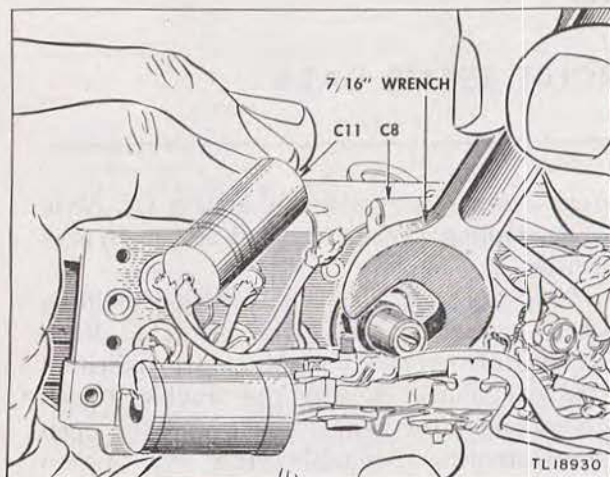

Figure 41. Removing capacitor retaining nut, Radio Receiver and Transmitter BC-611-(\*).
*a.* REMOVAL. (1) Remove antenna and antenna guide as indicated in paragraph 36*a*.
(2) Unsolder blue-white tracer of capacitor C12.
(3) Remove retaining nut using a 7/16 inch open-end wrench. (See fig. 41.)
(4) Remove capacitor and plastic cover from chassis.
(5) Separate capacitor and plastic cover using a knife to break the seal.
*b.* REPLACEMENT. (1) With cover on capacitor in position, cement in place to capacitor base.